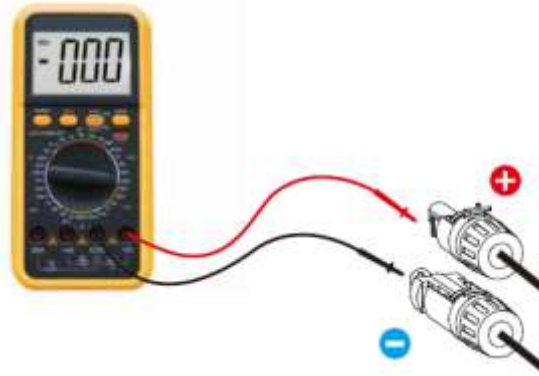

Figure 7.12.5 Multimeter measurement
- 5) Measure PV voltage of DC input with multimeter, verify DC input cable polar Before connecting inverter, please make sure the PV array open circuit (see figure 7.12.5), and ensure each string of PV voltage in range